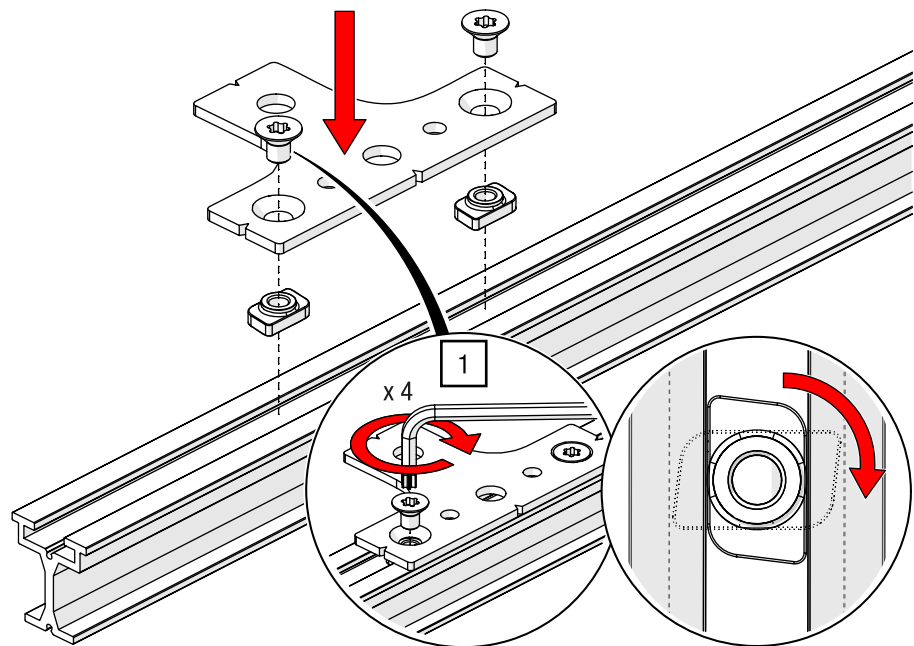

Fig. 48: Double track suspension bracket – Mount in direction of levelling plate
1. Insert the slot nuts into the track profile and screw the adapter plate on the profile in orientation of a levelling plate using a TORX®-key T40 and 27 Nm (see Fig. 48).